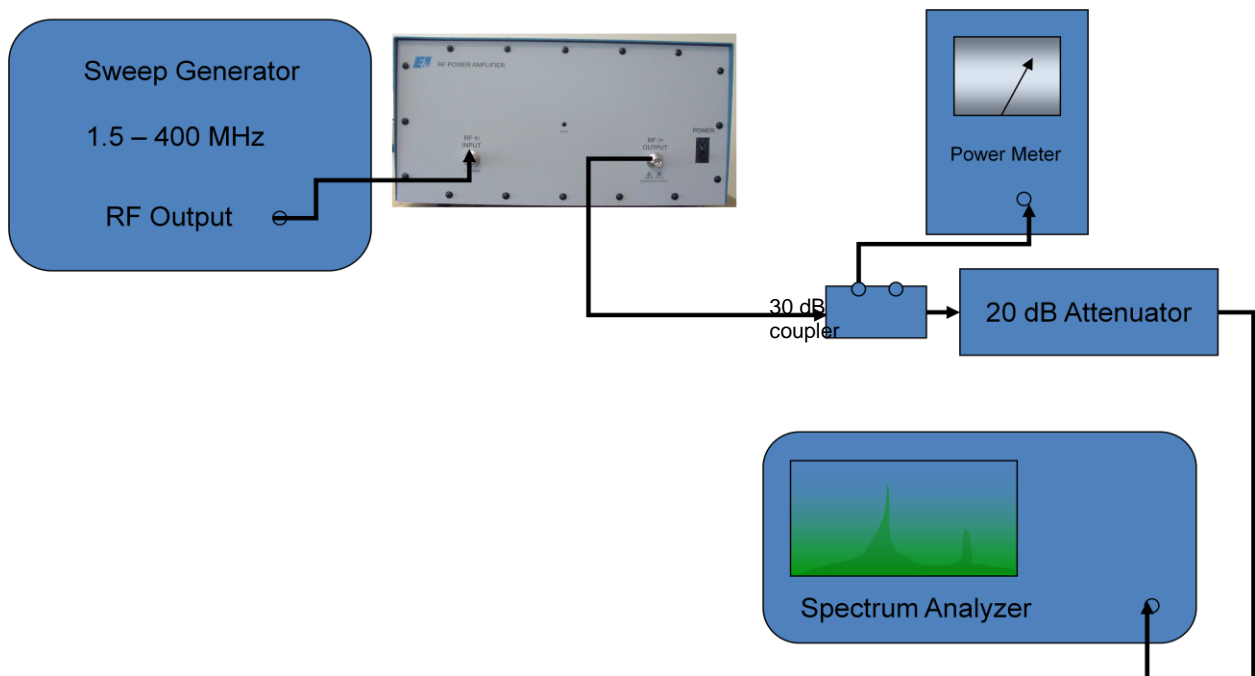

Figure 4-2
2.) Connect the Equipment as shown in Figure 4-2, then proceed as follows: